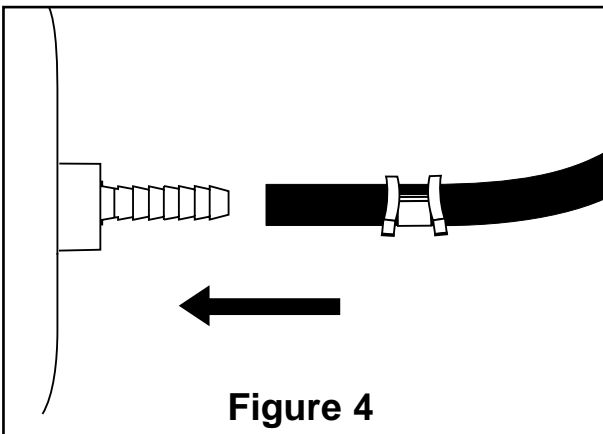

Figure 4
- G. Push the air line onto the stem, covering all the barbs. With pliers slide the air line clamp upward until it fully covers the barbed section (Figure 4).